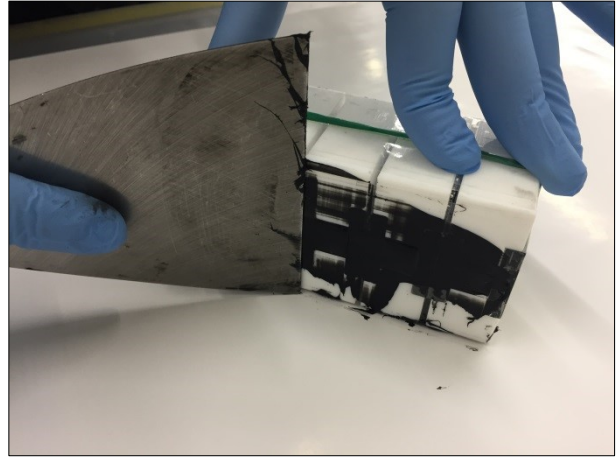

Figure 23: Removal of excess of silicone adhesive
2. Prepare at least 2 bubble-free test specimens per test series with Sikasil® SG adhesive. Remove excess material with a spatula [5] or other tool (Figure 23).